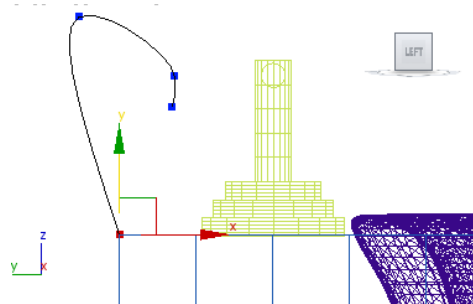

Figure 15-77 The line spline created in the Left viewport
- As discussed above, create the base of the main tap using three cylinders of radius **8.0**, **10.0**, and **12.0**, and group and name it as *base*. Now, choose the **Line** tool and create a line spline in the Left viewport, as shown in Figure 15-77.